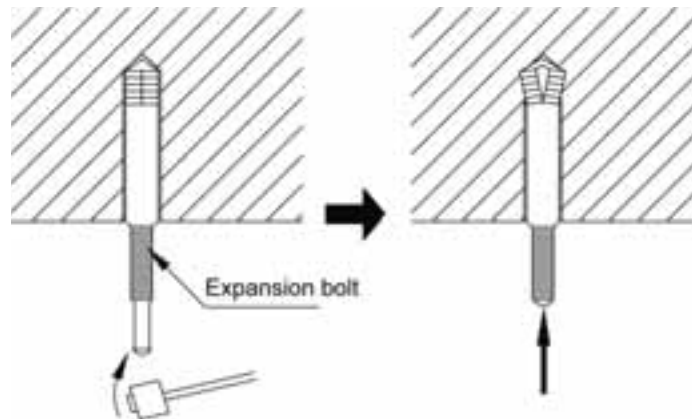

Fig. 4.10
(1) Insert M10 expansion bolt into hole, and then set the iron nail into bolt. As shown in Fig. 4.10.